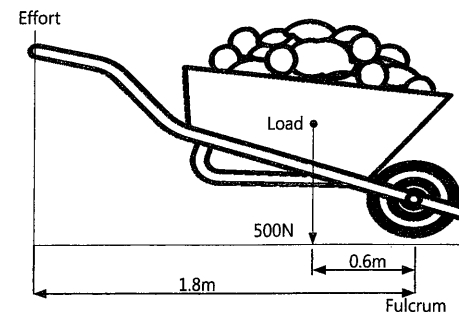

Figure 10.6
5. Study the diagram of the wheelbarrow in Figure 10.6. Calculate the effort required to lift the wheelbarrow and then determine the mechanical advantage.